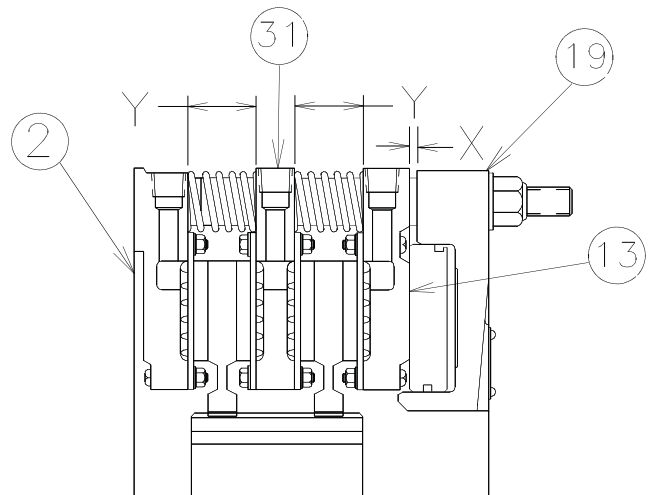

Figure 7 : 236WCB2EP - "X" & "Y" gap locations for dual disc
Measure the "Y" gap between the pressure plate (13) and the reaction plate (31), the "Y" gap between the reaction plate (31) and the mounting flange (2), and the "Z" gap between the reaction plates (31) as shown in **Figures 7, 8 and 9**.